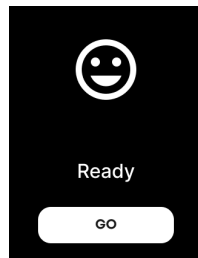

Figure 15
**Ready mode** - the AutoLEIL will switch on automatically as soon as the sauna reaches the target temperature and displays "Ready" (Fig.15).
Once the sauna is ready (Fig. 15), the page has AutoLEIL control on the last row (Fig. 20, A).